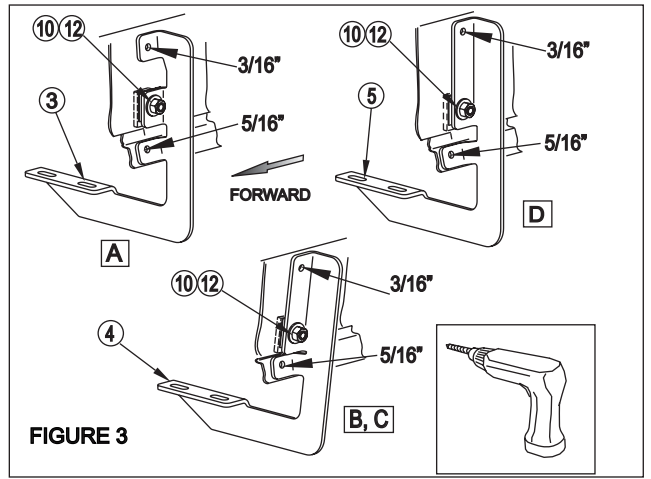

FIGURE 3
STEP 3. Attach brackets. Mark holes. Remove brackets. Drill holes as shown. **SEE FIGURE 3.**
NOTE: Be sure to use the correct drill bit size for each hole. **SEE FIGURE 3.**